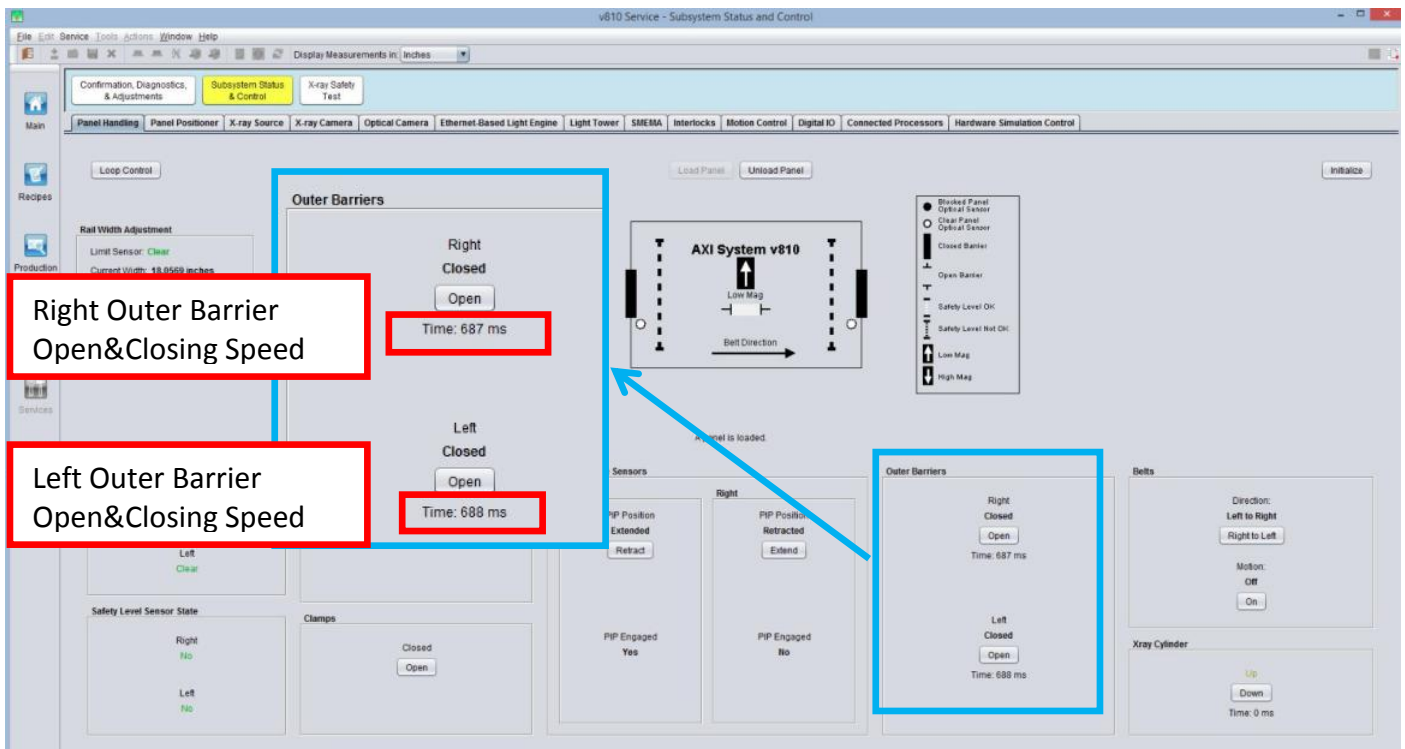

Figure 13 Outer Barrier Opening & Closing Duration
21. Open & Close particular Outer barrier which perform Valve Replacement. Record down Opening & Closing duration as below Figure 13.